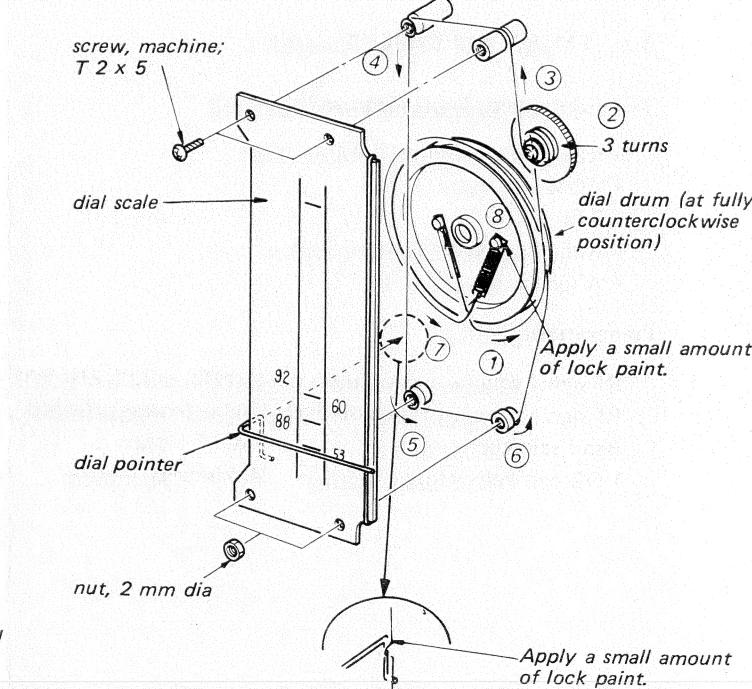

Fig. 2-4.
1. Remove the dial scale and dial pointer by removing two machine screws, T2 x 5, and two nuts, 2 mm dia, as shown in Fig. 2-4 bellow.
3. String the dial cord numerically as shown in Fig. 2-4 bellow.